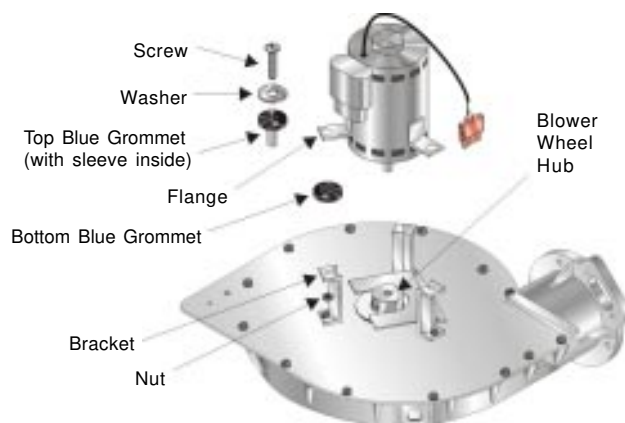

Figure 1
4. Loosen set screw on blower wheel hub, releasing blower motor shaft. See Figure 1.
8. See Figure 1. Make sure sleeve is inside t-shaped blue grommet and slip both through hole in flange. Place washer on top of blue grommet and slip screw inside